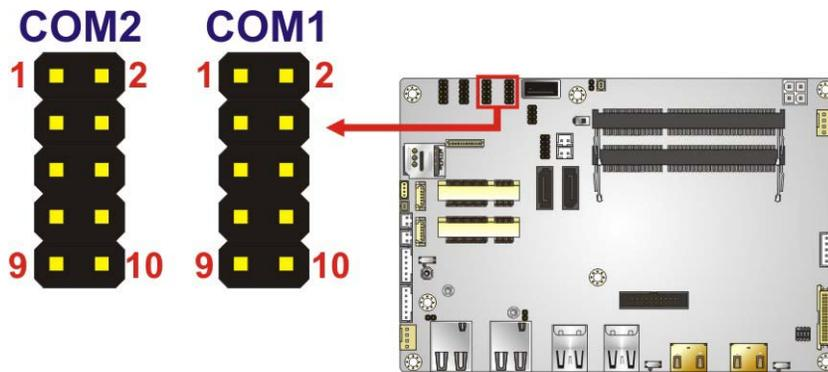

Figure 4-19: RS-232 Serial Port Connector Locations
- CN Location: See **Figure 4-19**